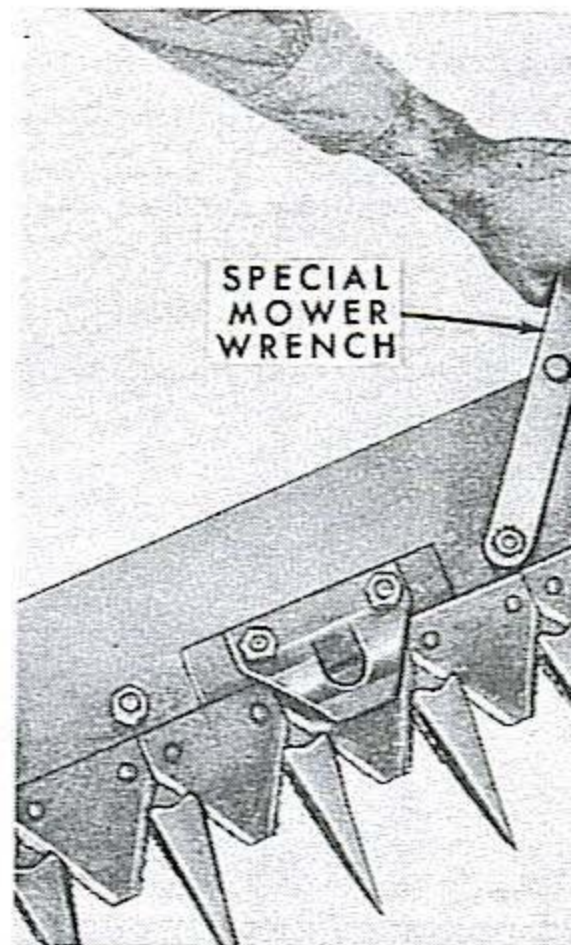

Figure 26
All of the knife guards, Figure 26, should align with each other and with the inner and outer shoes. At the same time, the knife sections (2), Figure 27, should be flush with the ledger plates (5). If necessary, align the guards by striking the forward end up or down with a hammer. Be sure the knife guard lip (1) is above the knife clip (3), and is straight, as shown.
All badly bent or broken guards should be replaced. Use the special mower wrench when replacing the guards. See Figure 26. Blunt guards should be repointed by filing or grinding.